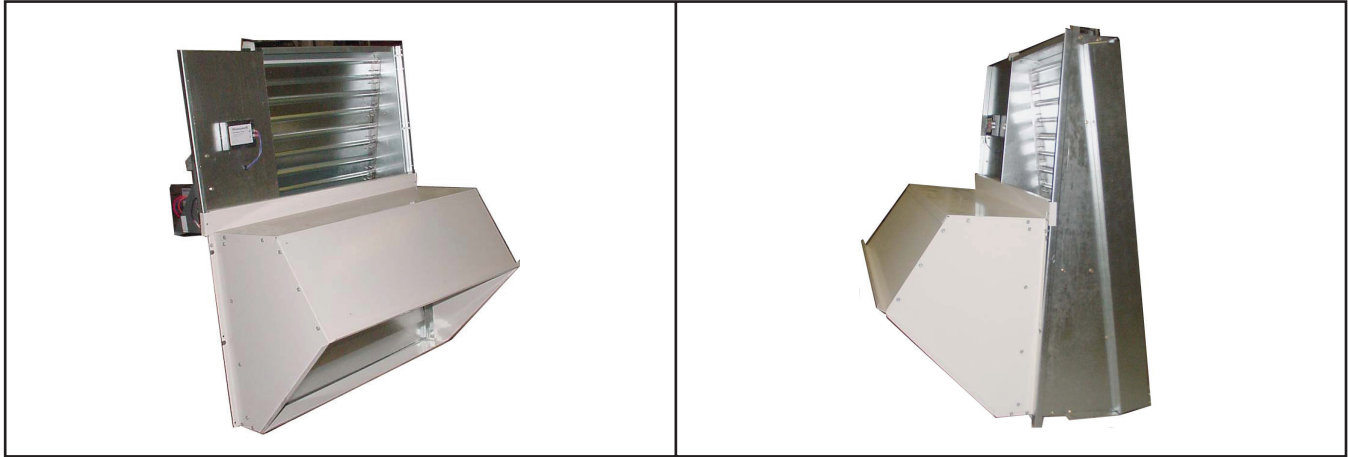

Figure 15. Economizer Module with Barometric Relief Hood
- Economizer components are shown in Figure 15 and listed in Table 26.